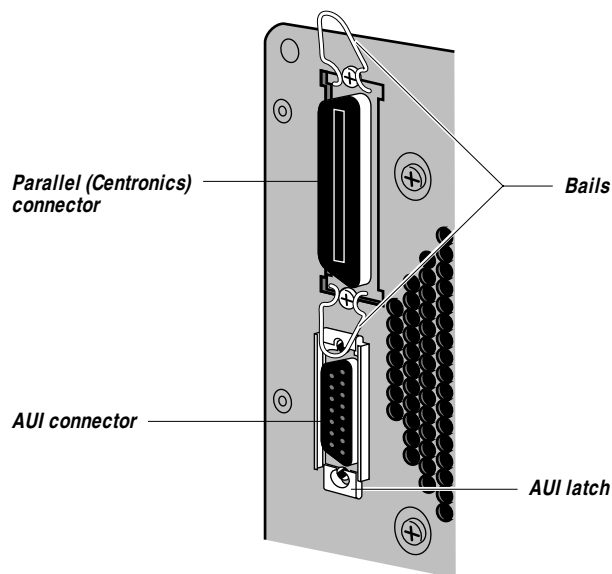

Figure 5-19 Centronics and AUI connectors on the motherboard
2. **Remove the two bails on the parallel connector (see Figure 5-19).**
4. **Remove the two screws and the latch on the AUI connector. Note the orientation of the latch so it can be replaced correctly later (see Figure 5-19).**
To replace the bails, squeeze the edges of the bail together and insert it into the holes in the connector (see Figure 5-19 on page 5-25).
Make sure the latch is oriented as shown in Figure 5-19 on page 5-25. Push the latch up to secure the bottom screw.